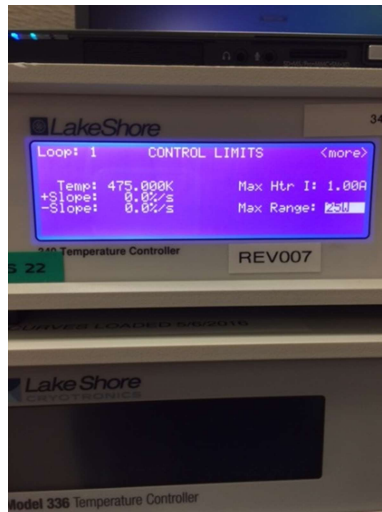

Figure 10
- 2.10 Using enter key, select max power range (Figure 10).